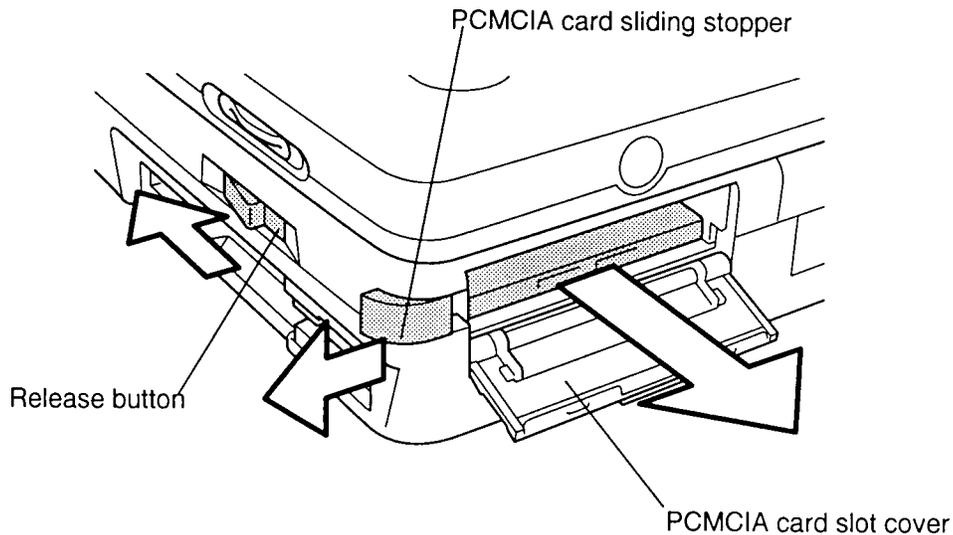

Figure 4-2 Removing the PCMCIA card
To remove optional PCMCIA cards, follow the steps below and refer to figure 4-2.
3. Open the **PCMCIA card slot cover**, then slide open the **PCMCIA card sliding stopper** (figure 4-2).
4. Slide the release button to the left to release the card (figure 4-2).